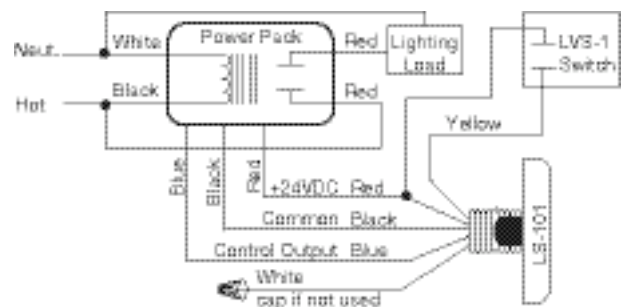

Figure 10: LVS-1 Override switch wiring
The wall switch requires a two wire momentary switch. See Figure 10 for more information.
- Yellow connects to the Wall Switch Override, see Figure 10.